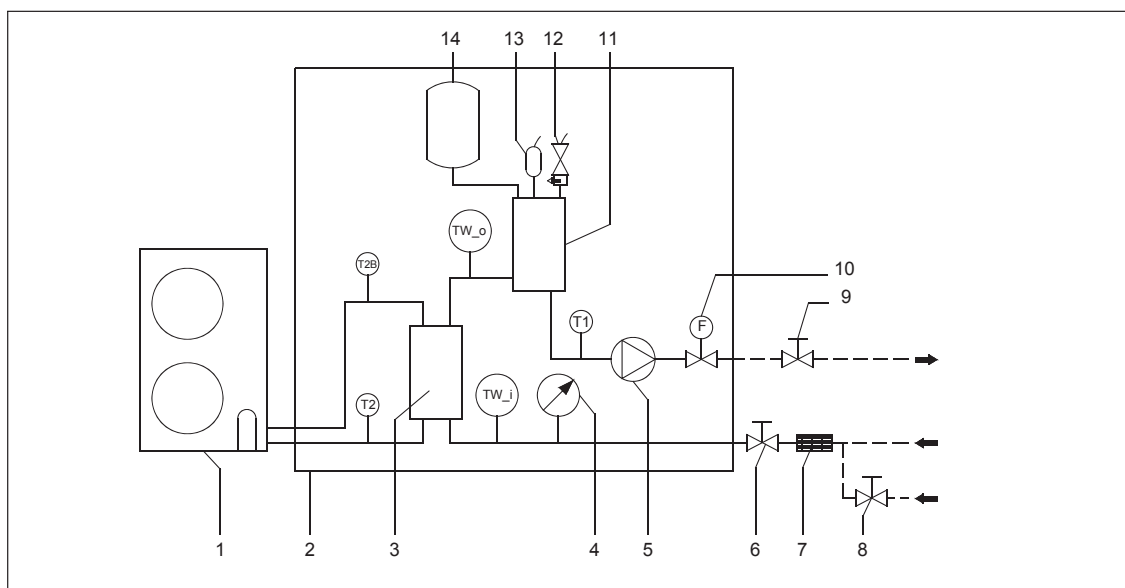

Fig.5-5
- To facilitate service and maintenance install one shut-off valve at the water inlet and one shut-off valve at the water outlet of the indoor unit as show in Fig5-5.
- The filter (accessory of indoor unit) must be connected into the water circuit as shown in Fig 5-5.